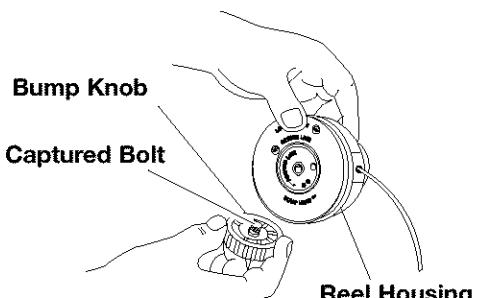

Fig. 19
1. Hold the reel housing with one hand and unscrew the Bump Knob counterclockwise (Fig. 19). Inspect the captured bolt inside the Bump Knob to make sure it moves freely. Replace the Bump Knob if it is damaged.
- Hold the reel in place and screw the Bump Knob clockwise back onto the reel (see Fig. 19).